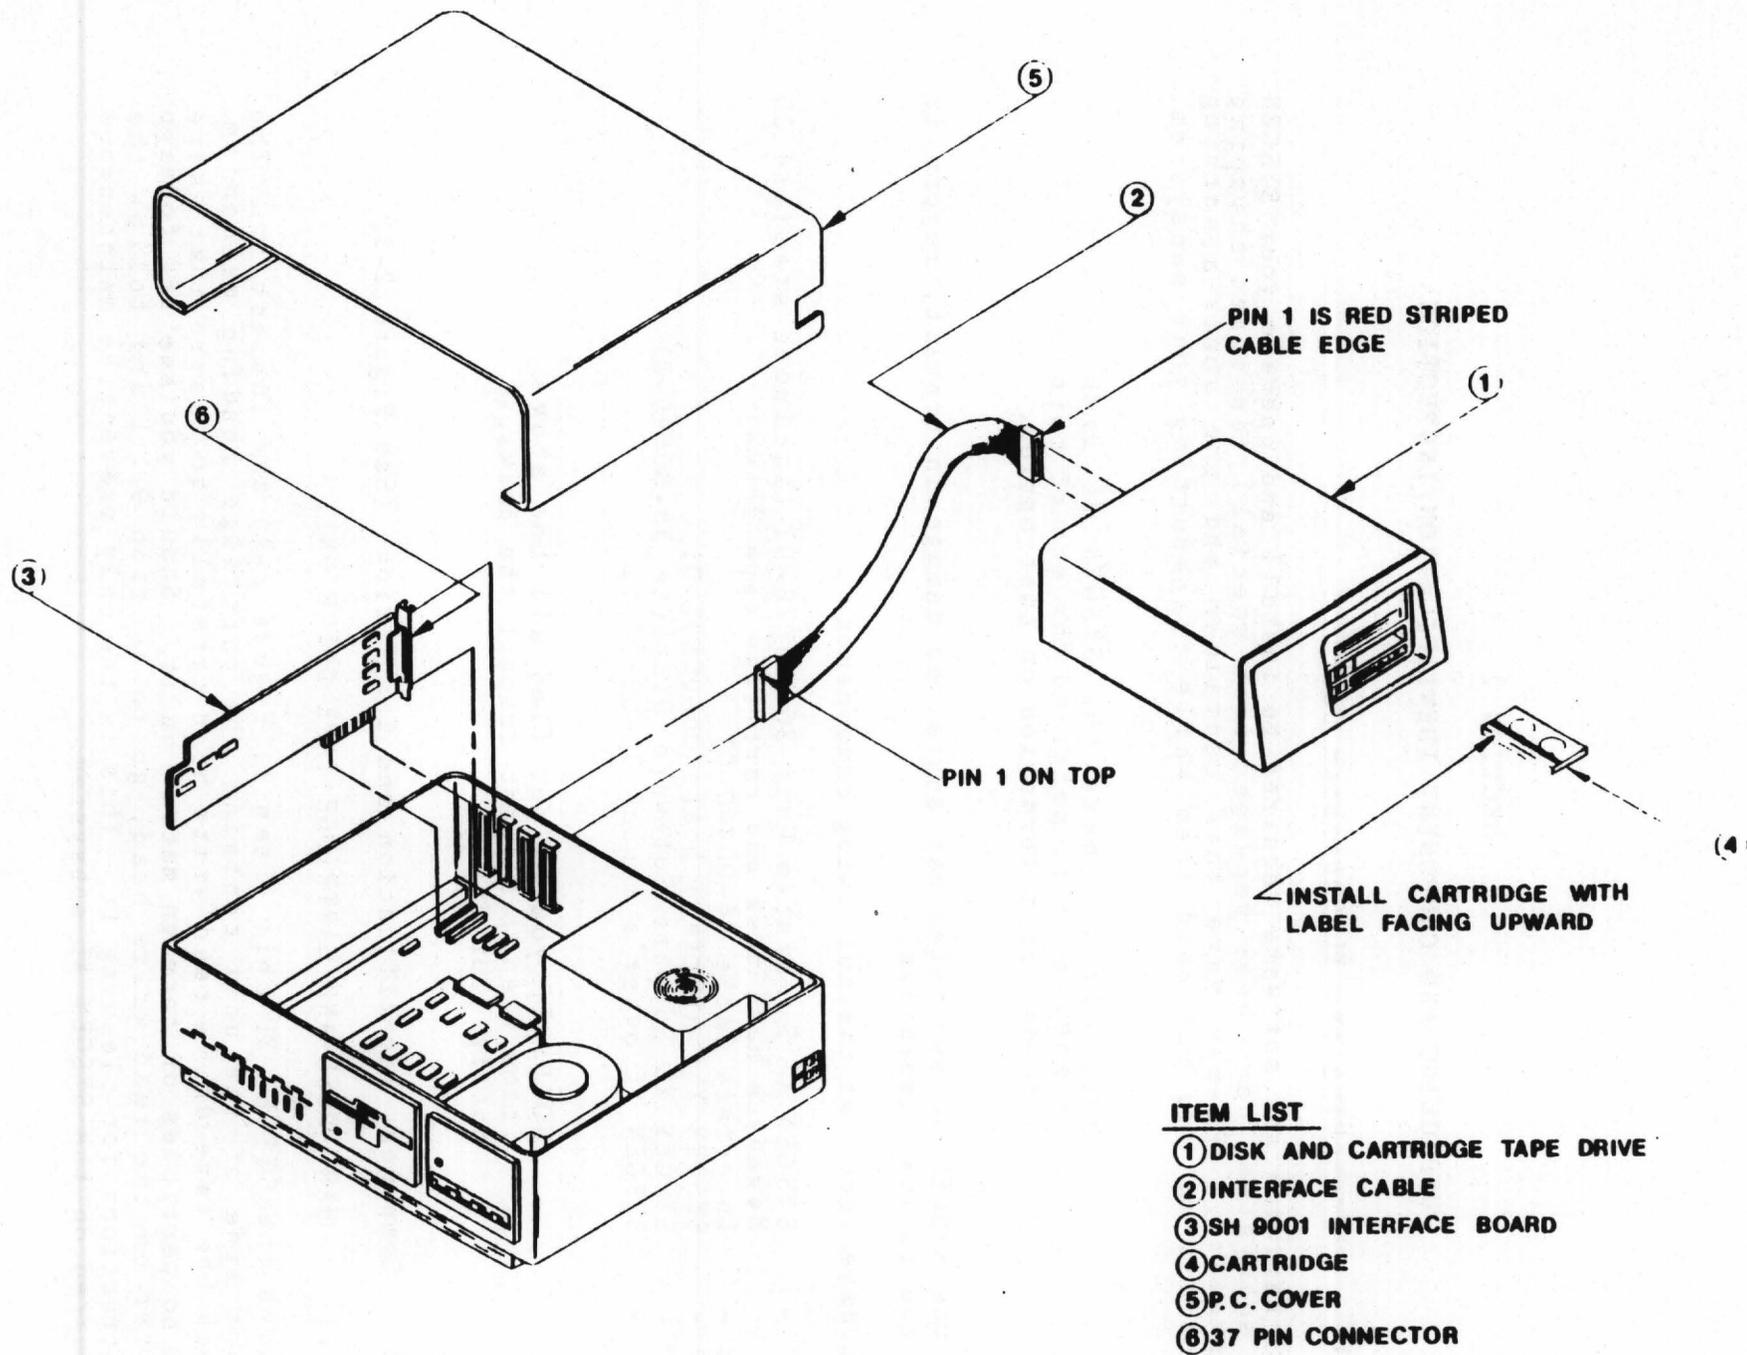

Figure 2-1
2.2 Component Identification and Inspection (See Figure 2-1)
Remove the SYSGEN XL Unit (Item 1, Figure 2-1) and inspect it. The front side of the unit contains the cartridge loading mechanism. Check the tape drive read/write head carefully to ensure that there are no particles or foreign matter on it. Should you see any foreign matter on the read/write head, go to section 9.1.1 and follow the instructions for cleaning it. This is the only preventive maintenance required on the SYSGEN XL subsystem.
This controller board (shown as Item 3 in Figure 2-1) has an edge finger connector located on the lower right side. These fingers will mate with the connector in your IBM PC.
This cable is shown as Item 2 in Figure 2-1. The shield and ground strap on the cable must be connected by the steel screw to the rear of the main chassis to provide FCC compliance.
1. Remove the IBM PC chassis top cover by removing the 5 screws from the rear of the PC main chassis. (See Figure 2-1, Item 5). Carefully slide the cover off ensuring that the cover does not catch on the internal wiring harness.
3. Remove the blank connector plate located on the rear chassis panel (see Figure 2-1) and retain the screw.
4. Insert the SYSGEN XL Subsystem Interface board (Item 3 in Figure 2-1) into the empty slot. Ensure that the rear connector (Item 6 in Figure 2-1) is properly positioned in the rear chassis panel.
6. Connect the 37-pin interface cable (Item 2 in Figure 2-1) from the SYSGEN XL Subsystem Unit data connector to the rear connector (Item 6 in Figure 2-1) on the SYSGEN XL Interface board. Ensure that the connectors mate before inserting them. Verify that the ground shield tabs on both ends of the 37-pin interface cable are connected to connector mounting screws and tighten the mounting screws. This is required in order to comply with the FCC regulations.